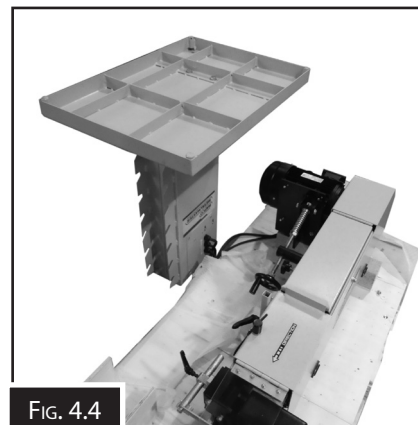

FIG. 4.4
2. With the stand upside down, attach the stand, to the base plate, using the four screws. (Fig. 4.4)